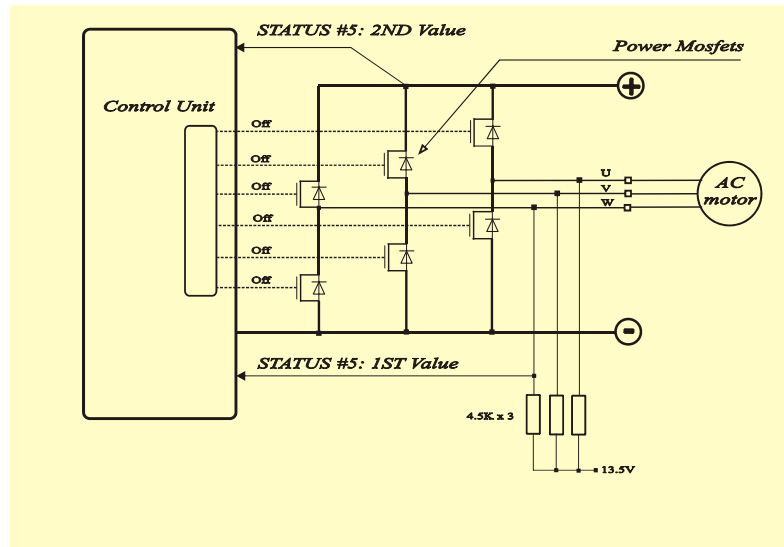

Figure 15.31-1
- Cause: After key-on, with the three phase power bridge off, the DC bus voltage is expected to raises up to 14Vdc within 3.2secs (alarm CAPACITOR CHARGE below if it isn't). In the same time, steering controller monitors the common voltage at the motor terminals (see STATUS #5 1ST value in Fig 15.31-1) and raises this alarm when the 3.2secs time-out is expired and:
- Cause: This alarm occurs at key on in case the DC Bus (rail capacitors) doesn't reach a minimum value of 14Vdc within 3.2secs despite it is expected to do. STATUS #5 supplies the real time value of the battery link (+B) in its short duration instance (2ND value in Fig. 15.31-1).